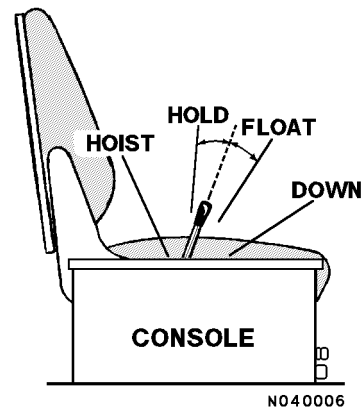

FIGURE 3-4. HOIST LEVER POSITIONS
4. Move the lever to the HOIST position. Refer to Figure 3-4. Releasing the lever while in the HOIST position will cause the lever to move to the HOLD position.